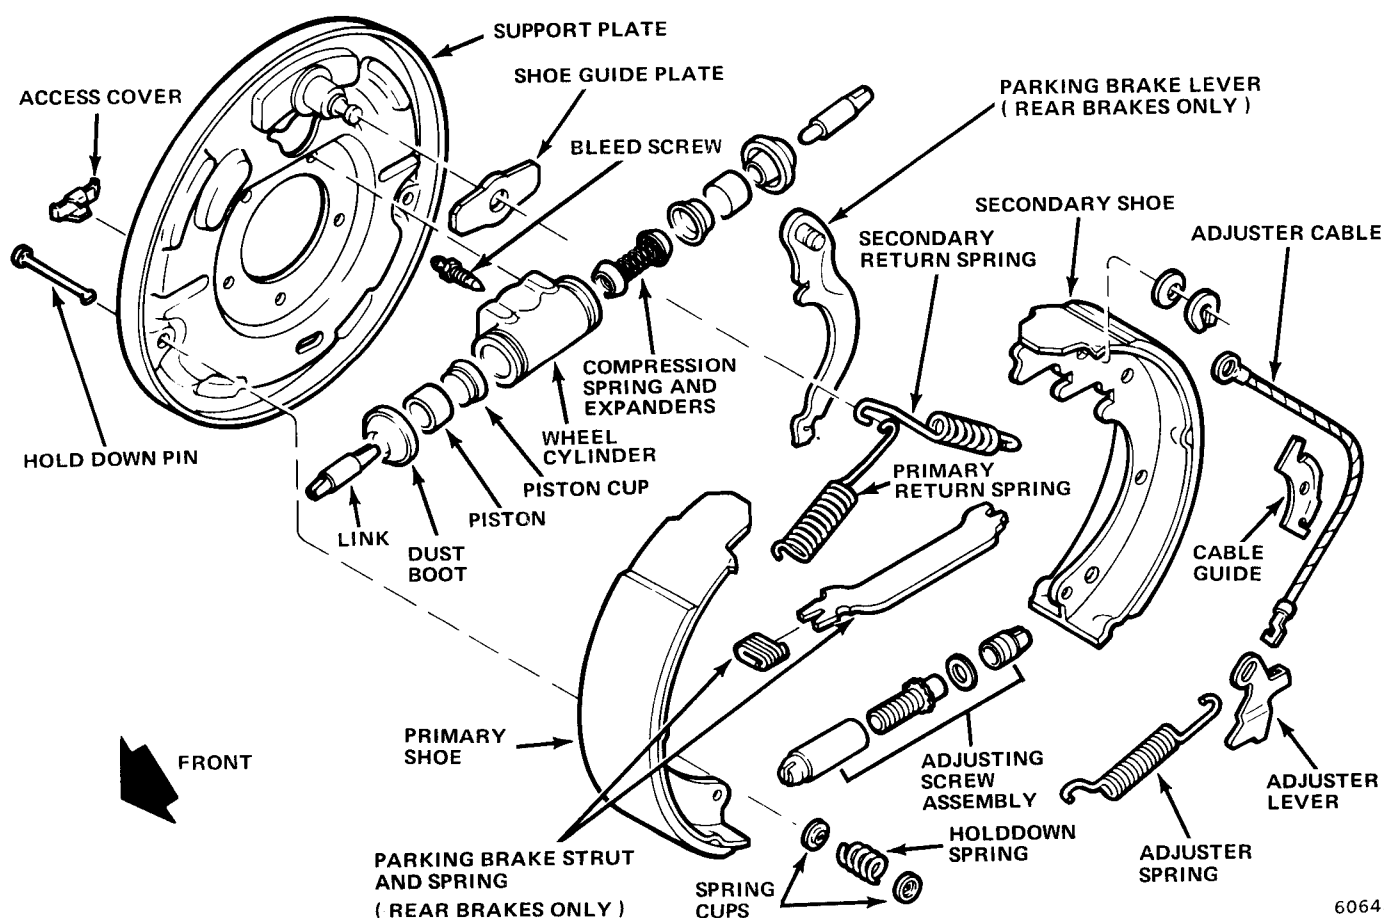

Fig. 9-13 Drum Brake Assembly—CJ Models
The drum brake units consist of a support plate, two brakeshoes, brakeshoe return springs, adjuster screw, holddown springs, automatic adjuster components, and a wheel cylinder (fig. 9-13 and 9-16).
(1) Before assembly, lubricate support plate ledges, anchor pin, self-adjusting cable guide adjuster screw threads, and pivot with molydisulphide grease or chassis lubricant. If servicing rear brakes, lubricate parking brake cable lever located on secondary shoes.
(2) Position brakeshoes on the brake support plate and install holddown springs. On rear brakes, install parking brake lever. Install parking brake cable on lever and install strut and spring.
(3) Place adjuster cable eyelet on anchor pin.
(4) Install primary return spring.
(5) Install cable guide and install secondary return spring (fig. 9-13).
(6) Install adjuster screw assembly. Place small hooked end of adjuster spring in large hole in primary shoe and place large hooked end of adjuster spring in adjuster lever.
(7) Place hooked end of adjuster cable over cable guide (fig. 9-13 and 9-14).
(8) Grasp adjuster lever with pliers and hook adjuster lever tang in large hole in bottom of secondary shoe.